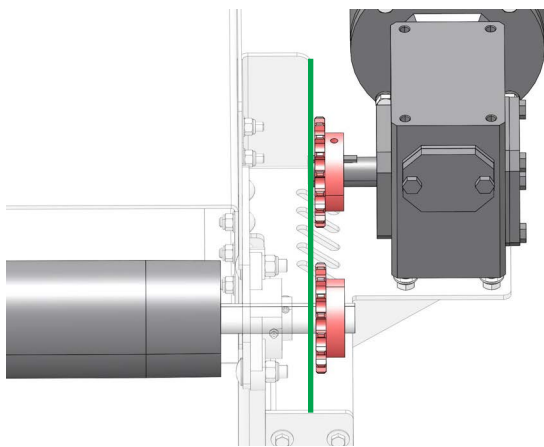

FIG. 3-10
3. Ensure the roller sprocket and drive sprocket are aligned as shown in FIG. 3-10.